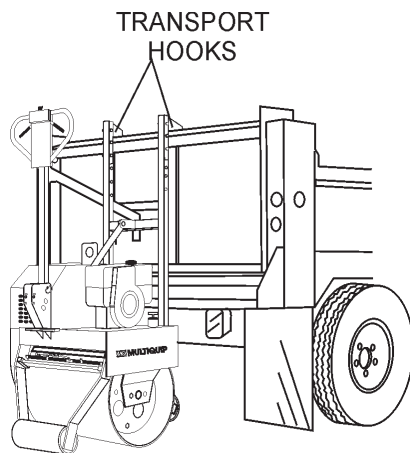

Figure 4. Transport Hooks
8. **Transport Hooks** – These hooks are used in the transportation of the roller (Figure 4). The hooks allow the roller to hang over the tailgate of a dump truck.